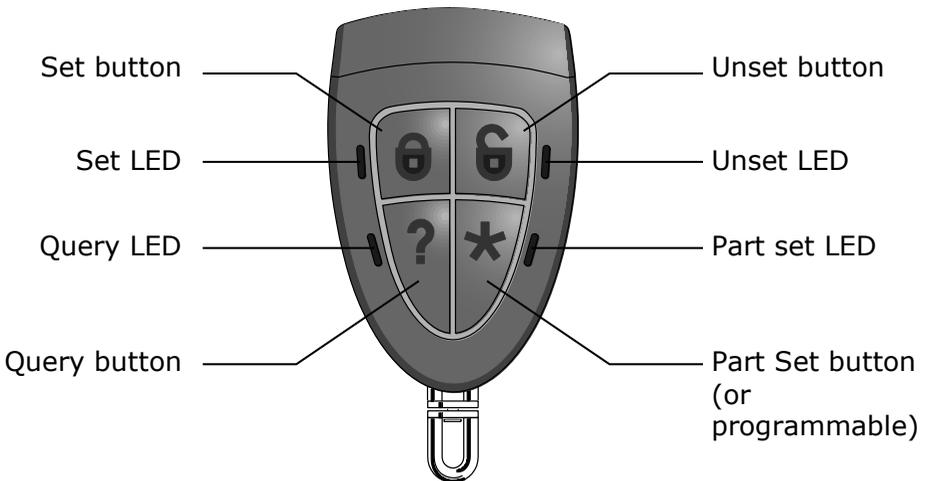

Figure 2.
7. Test the new battery by holding down the Query button on the fob for three seconds (see figure 2). You should see the red LED by that button flashing.
When you receive your fob for the first time, take a minute to look at it and identify each of the buttons. Figure 2 shows you where they are.